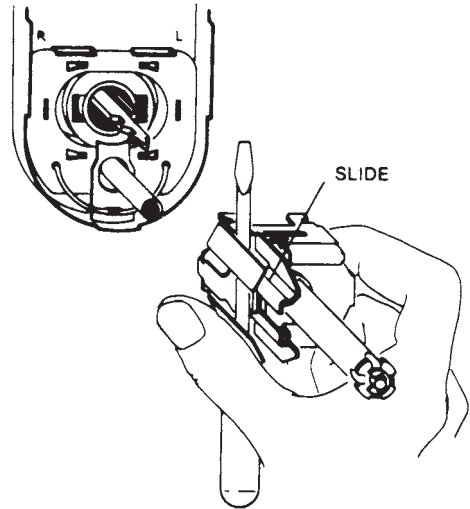

Figure 13.74 Changing hand, Step 5.
5. Compress the slide with a screwdriver and pull the assembly out (Fig. 13.74).